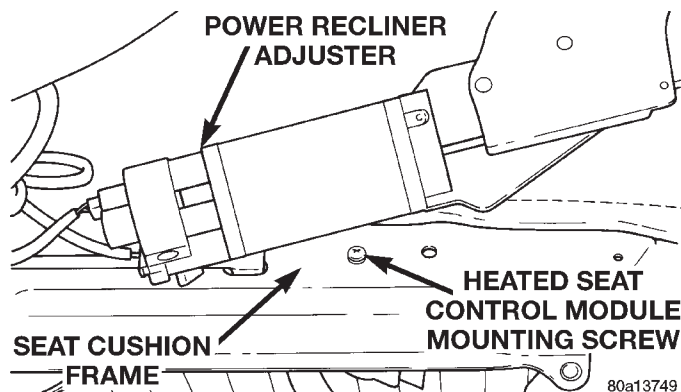

Fig. 5 Power Recliner Lower Bracket Remove/Install
(1) Move the power seat adjuster to the most raised and forward stop positions, if possible.
(2) Remove the three screws that secure the outboard seat cushion side shield to the seat cushion frame and pull the shield away from the seat so that the power recliner adjuster lower bracket can be seen.
(3) If possible, adjust the seat back with the power recliner switch far enough so that both of the two bolts in the power recliner adjuster lower bracket can be accessed.
(4) Disconnect and isolate the battery negative cable.
(5) Remove the two bolts that secure the power recliner adjuster lower bracket to the seat cushion frame (Fig. 5).